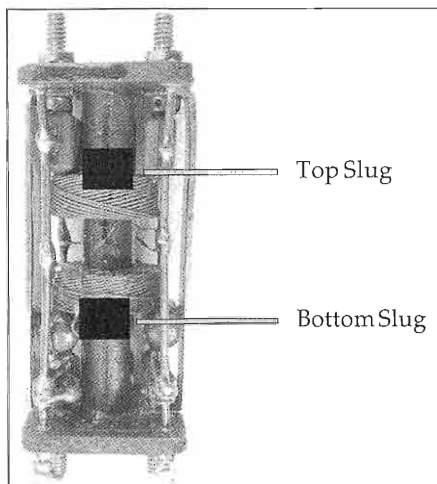

Figure 3: Recommended positions of the top and bottom slugs in T503 are shown with the black rectangles.
c) Tune T503 for minimum distortion. Readjust Z503 as required to maintain 2.2 volts audio on R104 during this adjustment. Distortion should be 2% to 3% or less. Make certain that tuning slugs in T503 are positioned as in **Figure 3**, page 35.